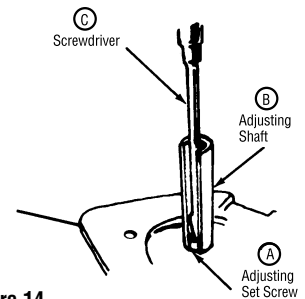

Figure 14
- B. While holding the adjusting shaft (B) tightly, turn small center adjusting screw (A) with small screwdriver (C) until thermostat clicks "off". (See Figure 14)